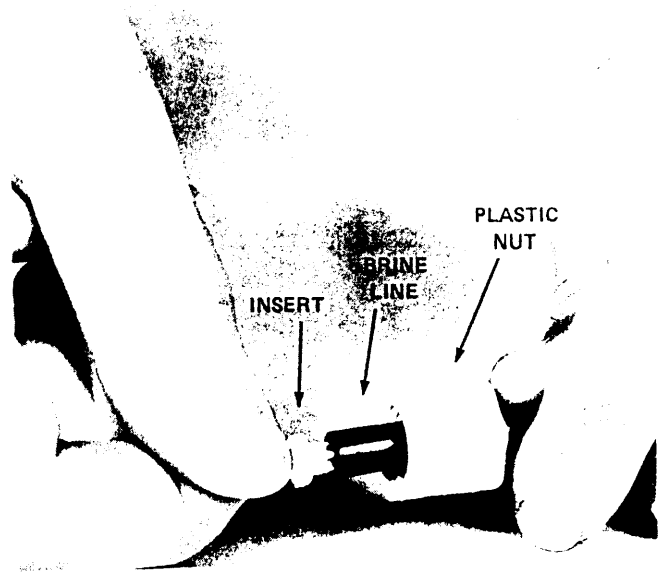

Fig. 13
1. Measure the distance from the brine valve neck to the brine tee of control valve and cut a section of brine line tubing to the appropriate length. Slide a plastic nut onto each end of the brine line and push a brine line insert into both ends of the brine line (Fig. 13). Firmly seat one end of the brine line into the brine valve and hand tighten the plastic nut to obtain the proper seal.